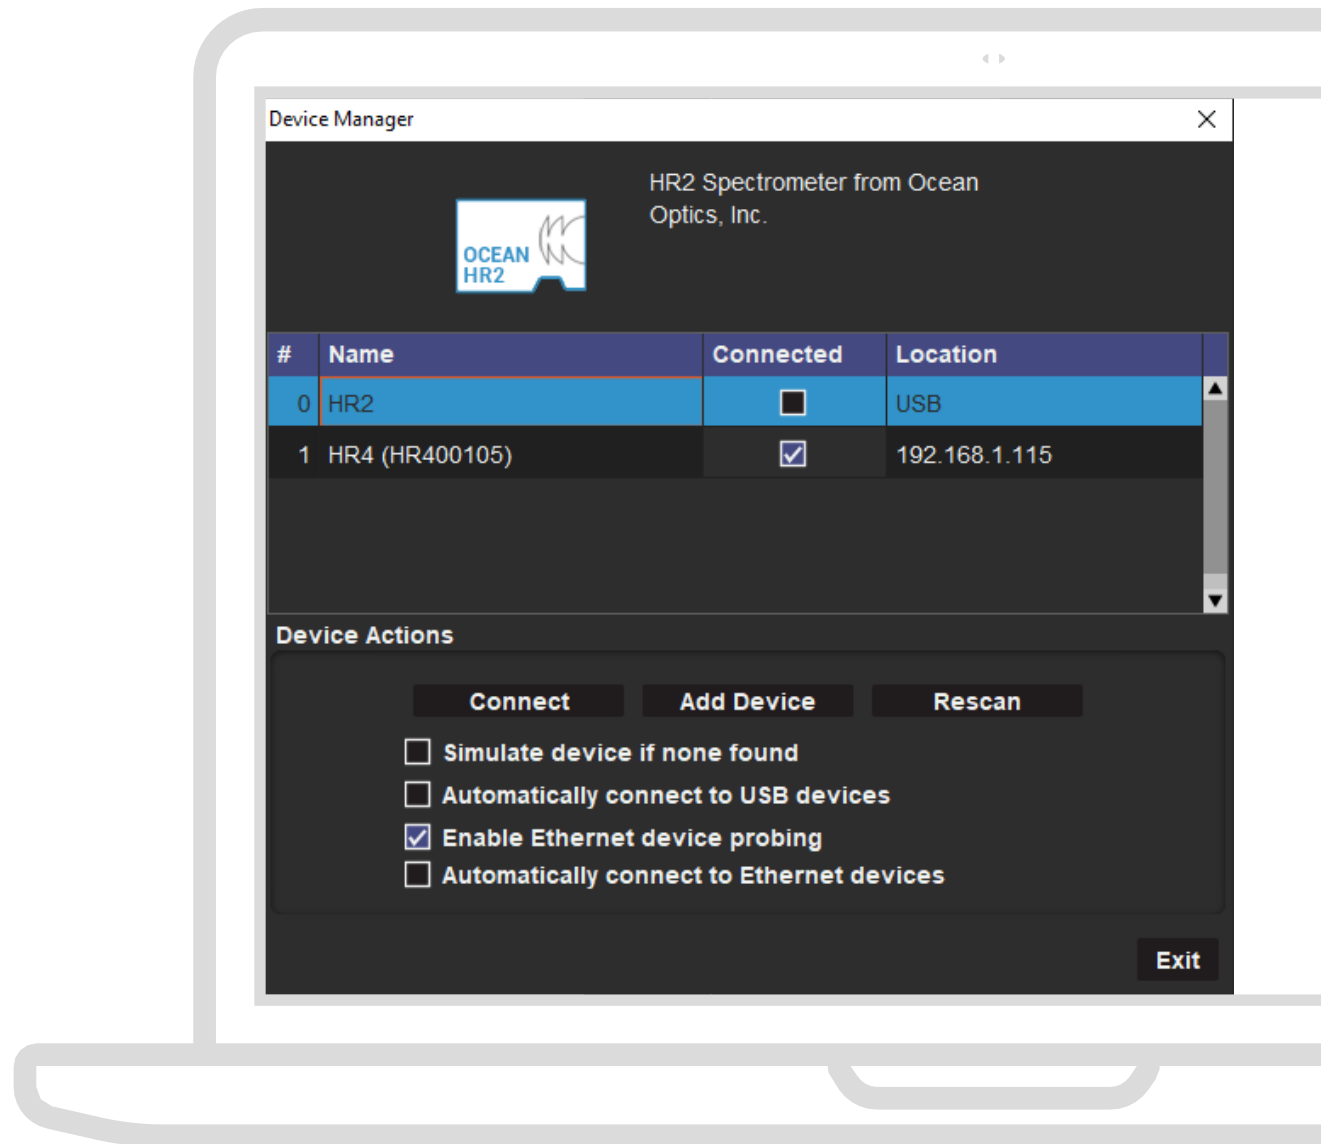

Figure 1 Device Manager window showing HR2 found via USB and HR4 connected on the network
- a. Open the Device Manager by clicking on the Magnifying Glass icon or pressing the F5 key. An example Device Manager window is shown in Figure 1.